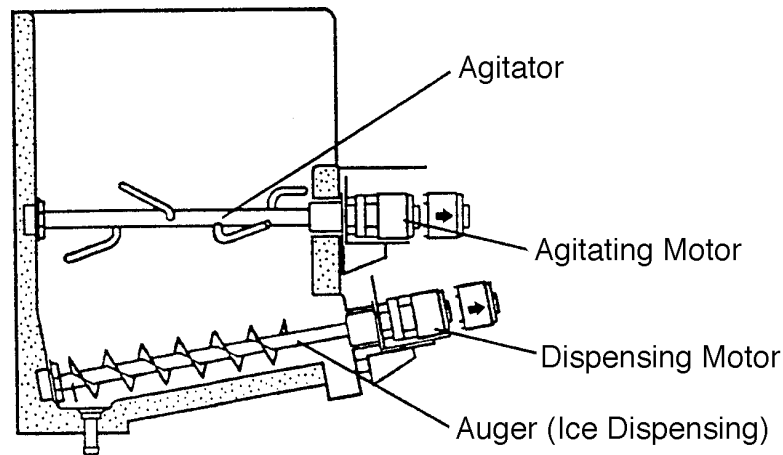

Fig. 6
- 2) Remove the thumbscrews, first from the vertical plane and then from the horizontal plane of the Motor Brackets. Move the Agitating Motor(s) and the Dispensing Motor toward you. Then remove the Agitator(s) and the Dispensing Auger. See Fig. 6.